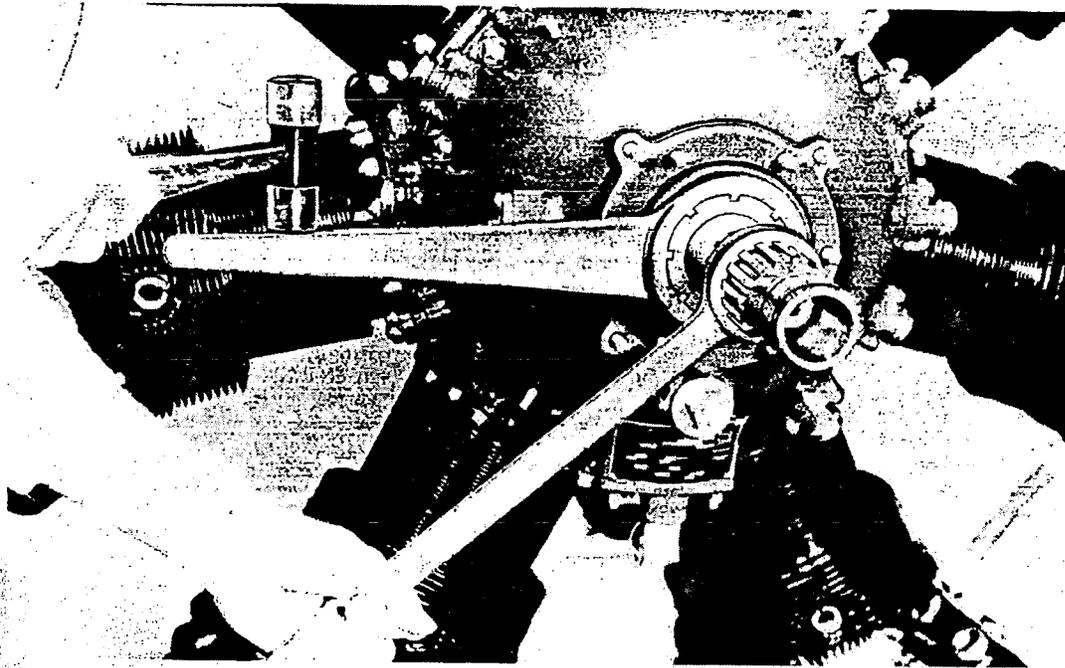

Figure 4 - Removing Thrust Nut
(5) Thrust Nut: Loosen the thrust nut one turn with the Wrench (Tool No. T-348-B). Refer to Figure 4. When loosening the thrust nut hold the crankshaft stationary with the Spline Wrench (Tool No. 340). If necessary to strike the Nut Wrench, use only a lead hammer or mallet.
(6) Distributor Blocks: Remove the distributor blocks from the magneto and distributor. When removing the distributor blocks from the magneto and distributor, care should be taken so that the molded block will not be broken by hitting the sides of the engine stand when removing the entire ignition manifold assembly.
(7) Accessories: Remove the magneto, starter, fuel pump, generator, and accessory drive unit.
(8) Ignition Manifold: Remove all nuts and clips securing the ignition manifold, assembly and remove the entire ignition manifold assembly.